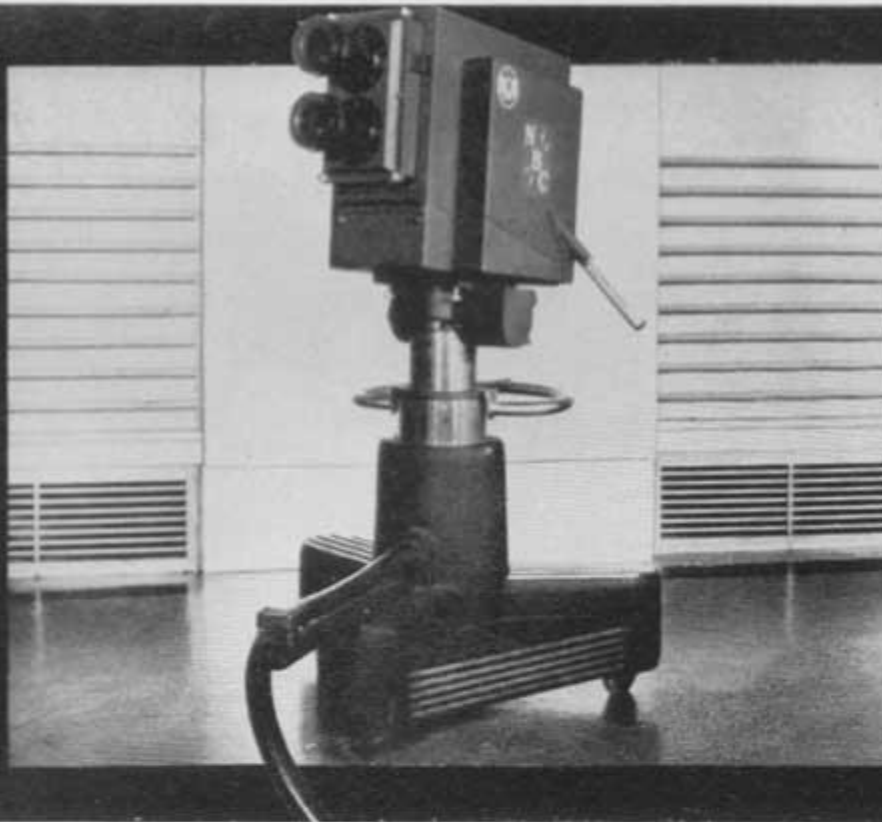

FIG. 26. TELEVISION CAMERA, 1939 MODEL. THIS IS ONE OF THE CAMERAS USED IN THE NBC STUDIOS AT NEW YORK CITY.
**The Camera Tube:** Figs. 26, 27, and 28 show the details of the television camera and the camera tube, while Fig. 31 gives the circuit of the associated equipment. While there are variations of the camera tube illustrated here, this type is described because it is in actual use in the NBC studios.
The camera, Fig. 26, contains a viewing lens for the use of the operator and, below, a lens for focusing the view on the photoelectric mosaic plate in the camera tube. This plate is shown in Fig. 28. Since the